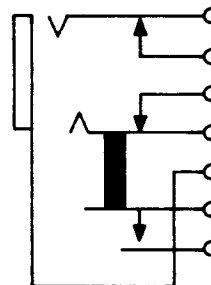

Fig. 3—308 Jack
2.03 **308:** This strip-mounted jack (Fig. 3) is used with the 310 plug. This jack is also used with the 109, 110, 116, 131, 136, 137 or similar-type jack mountings. This jack is furnished only on orders for jack mountings.